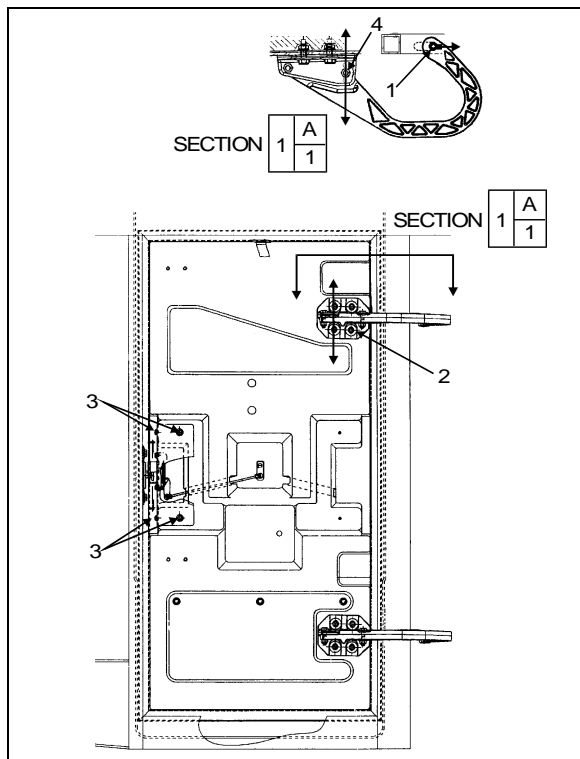

FIGURE 76: MAIN POWER COMP. DOOR
2. Loosen nut (1, Fig. 76).
4. Tighten nut (1, Fig. 76).
5. Loosen nut (2, Fig. 76). Hinge allows the door to be shifted "IN or OUT".